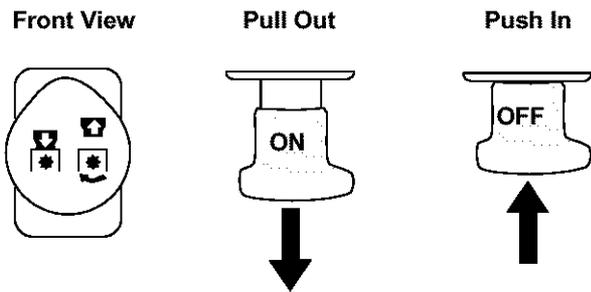

Figure 9
- To engage the PTO, move the throttle control lever to the FAST (rabbit) position. Pull the PTO knob outward to the ON position. See Figure 9.
- To disengage the PTO, push the PTO knob in to the “Blade Stop” position. See Figure 9.